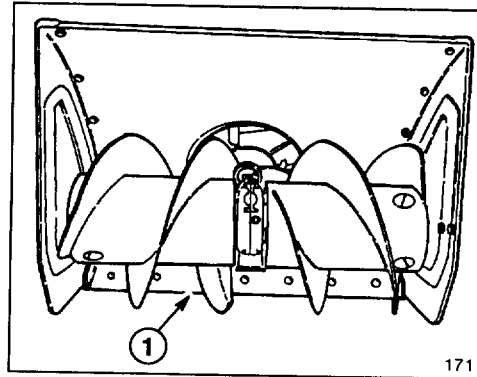

Figure 7
2. Move the snowthrower onto a flat surface and check if scraper (Fig. 7) is parallel to the ground. If not, adjust scraper; refer to Adjusting Scraper, page 17.